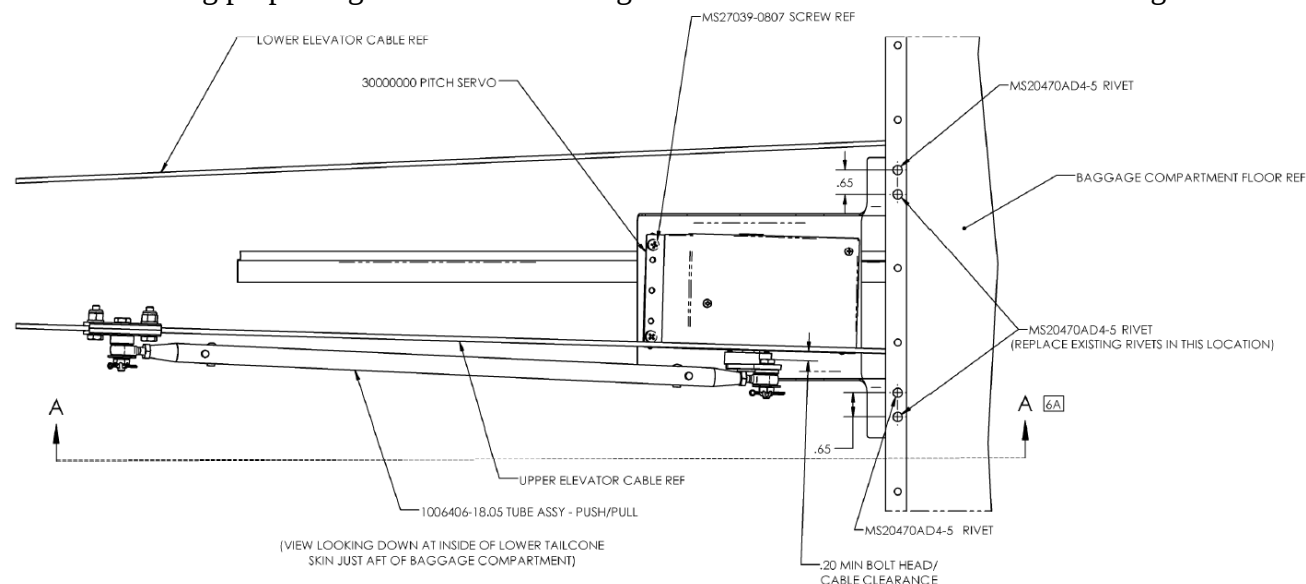

FIGURE 4-12 PITCH INSTALLATION TOP VIEW
- 4.2.8 Drill the 4 upper bracket holes through the baggage floor and angle with a #30 drill bit ensuring proper edge distance on the angle and bracket. Install clecos. Refer to Figure 4-12.